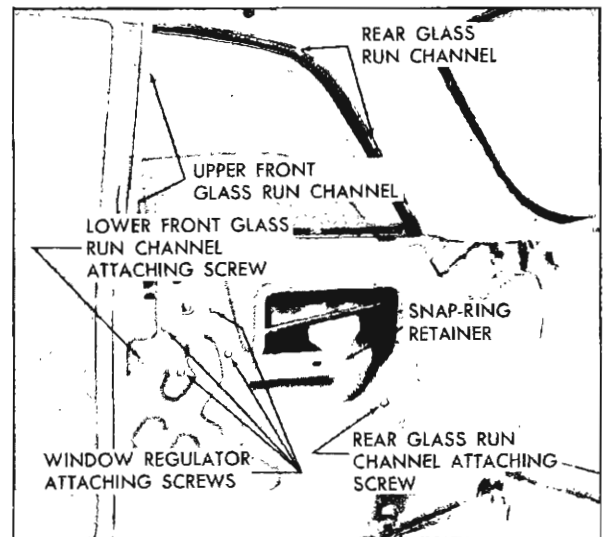

Fig. 62—Rear Quarter Hardware Attachment—11 Styles—Manual
- Remove snap ring retainer securing regulator lift arm to pivot pin on window lower sash channel (fig. 62).
- Operate the window to the "full up" position and loosen the window regulator attaching screws (fig. 62).
- Loosen rear glass run channel attaching screw (fig. 62).
2. Remove snap ring retainer securing regulator lift arm to pivot pin on window lower sash channel (fig. 62).
4. Remove regulator attaching screws (fig. 62) and remove regulator through access hole.
2. Remove lower front glass run channel attaching screw (fig. 62) and remove run channel through access hole.
2. Remove rear glass run channel attaching screw (fig. 62).
2. Disengage window assembly from regulator lift arm by removing snap ring retainer (fig. 62).